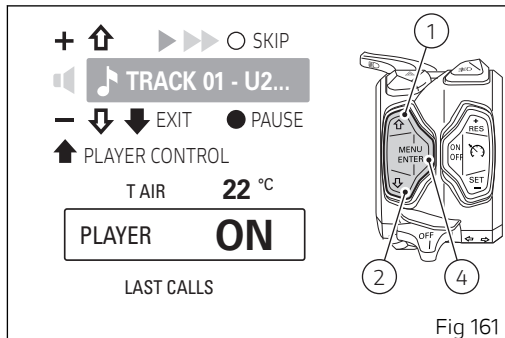

Fig 161
Press button (4) to switch it on. The instrument panel shows "PLAYER ON" and displays the Player menu above the Menu (Fig 161).
When the Player is turned on, within Player control page (Fig 161), button (1), button (2) and button (4) can only be used to control the Player:
- Volume up: Press button (1) once.
- Volume down: Press button (2) once.
- Pause / Play: Press button (4) for 2 seconds.
- Skip / Next track: Press button (4) once. Each press corresponds to a track skipped.